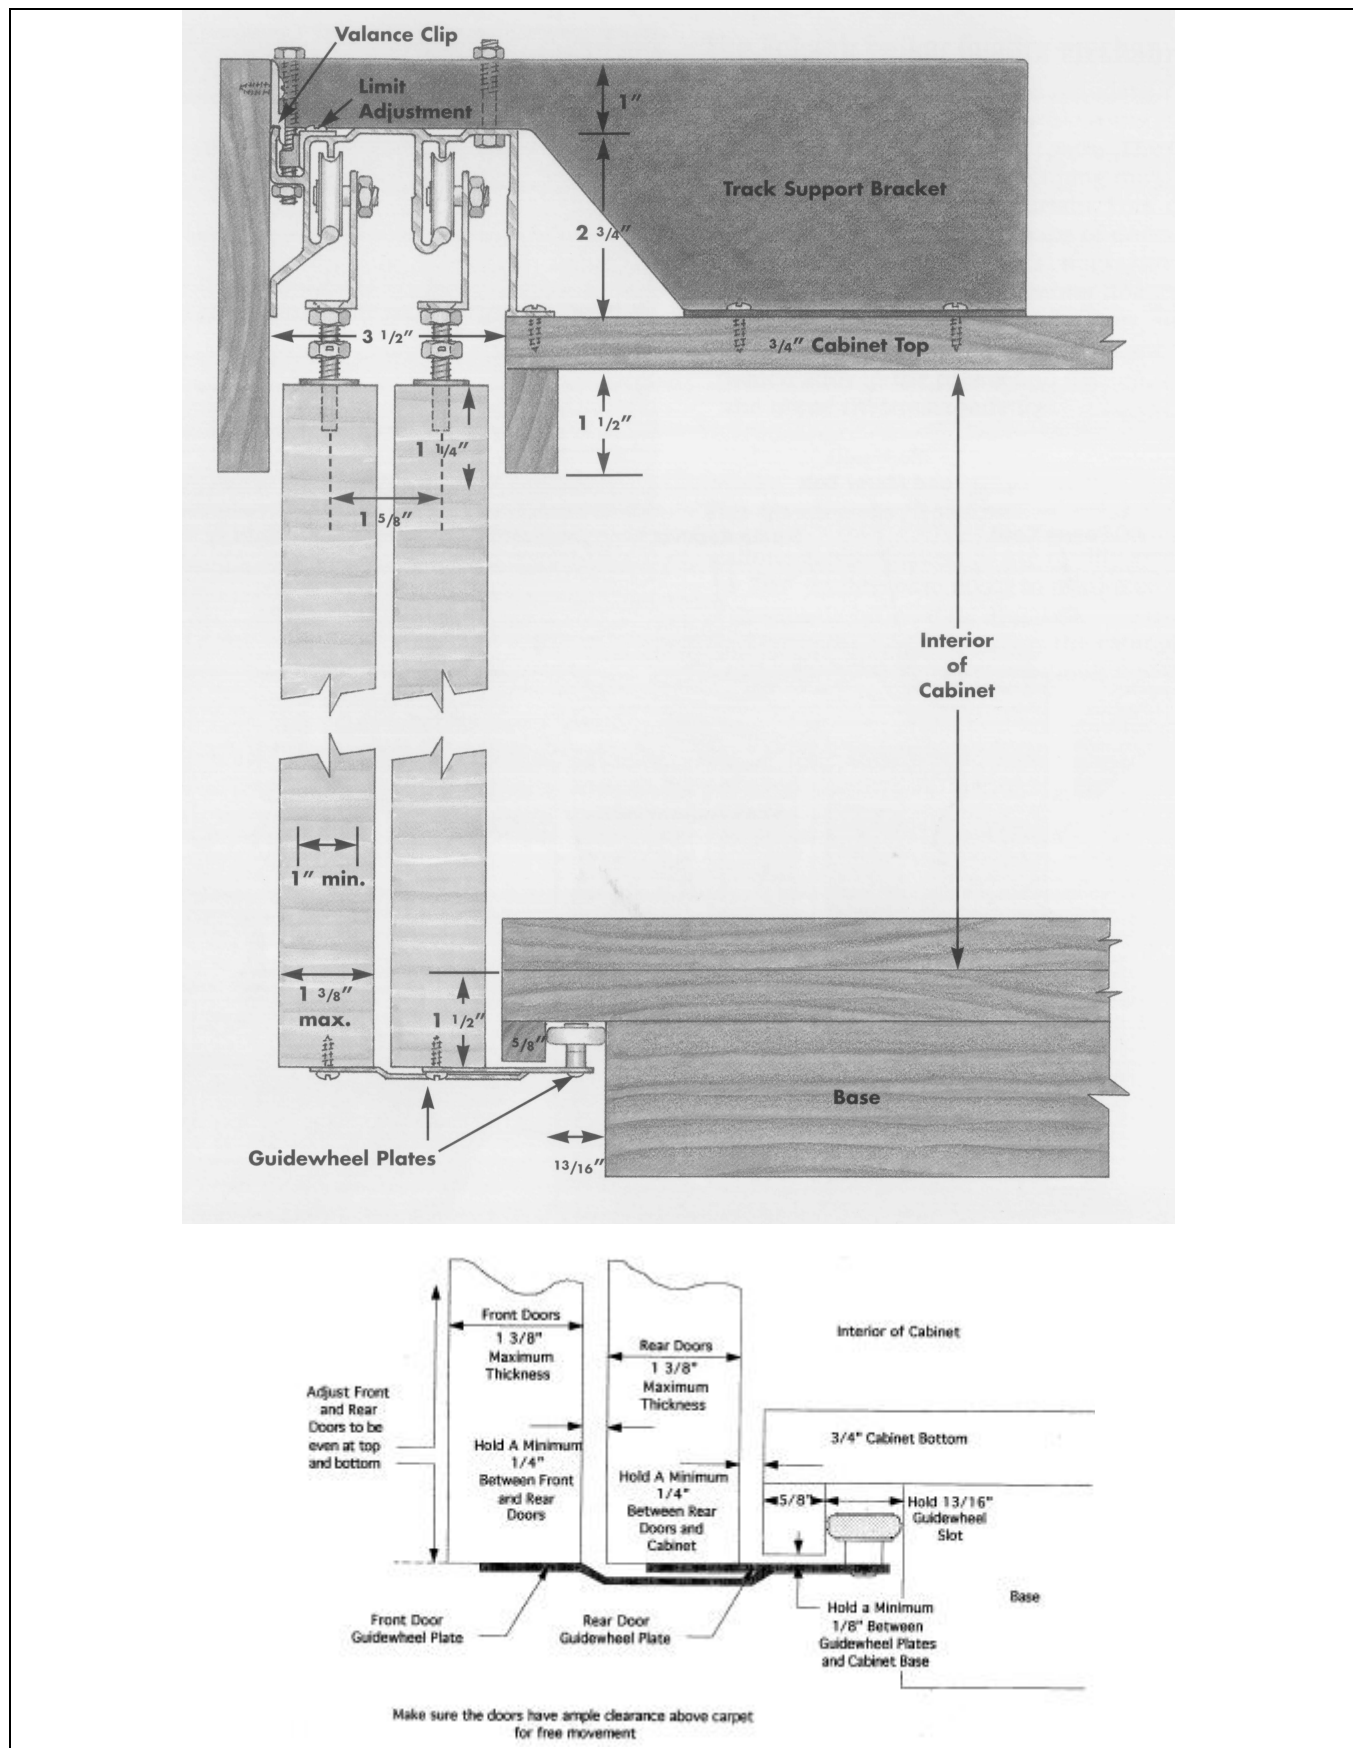

Figure 2
2. Align centerline on track with center of cabinet opening, and keep the front of the track mounting flange flush with front of the cabinet. (See Figure 2)